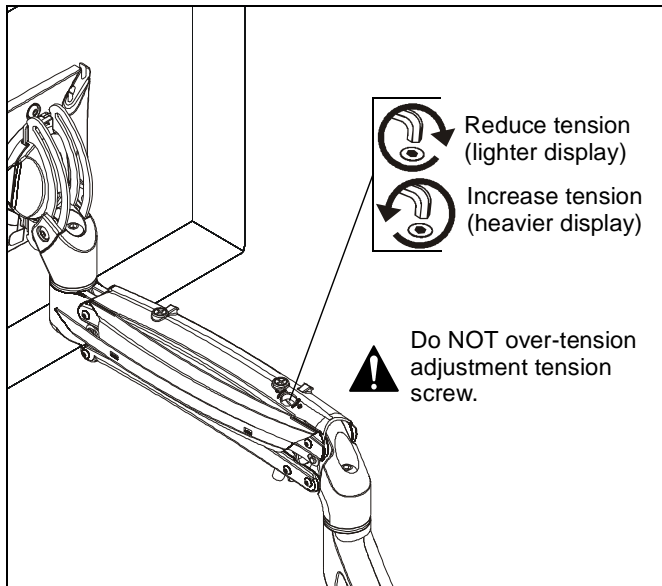

Figure 12
**NOTE:** Tension may also be adjusted with upper tension adjustment screw inside cable management cover and 1/8" hex key (M). (See Figure 12)